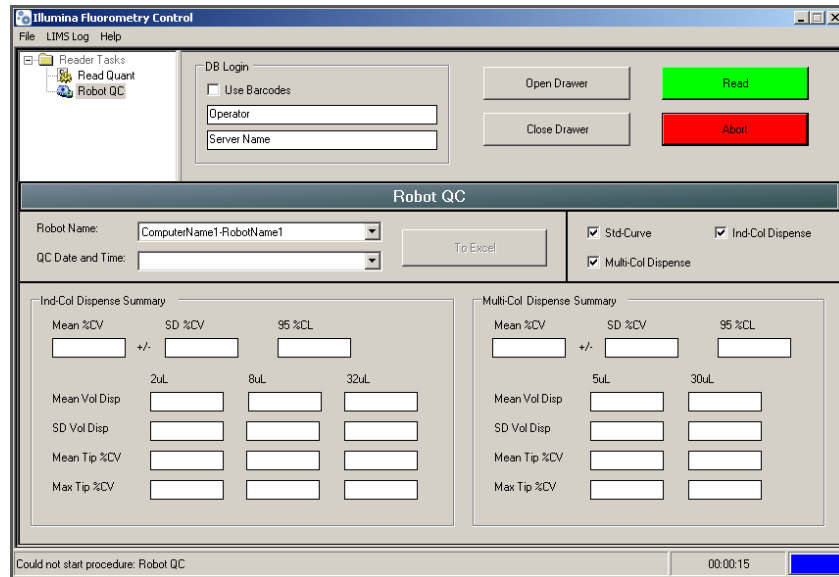

Figure 82 Std-Curve Box Checked
- In the Illumina Fluorometry Control software, select the **Std Curve** checkbox (Figure 82).